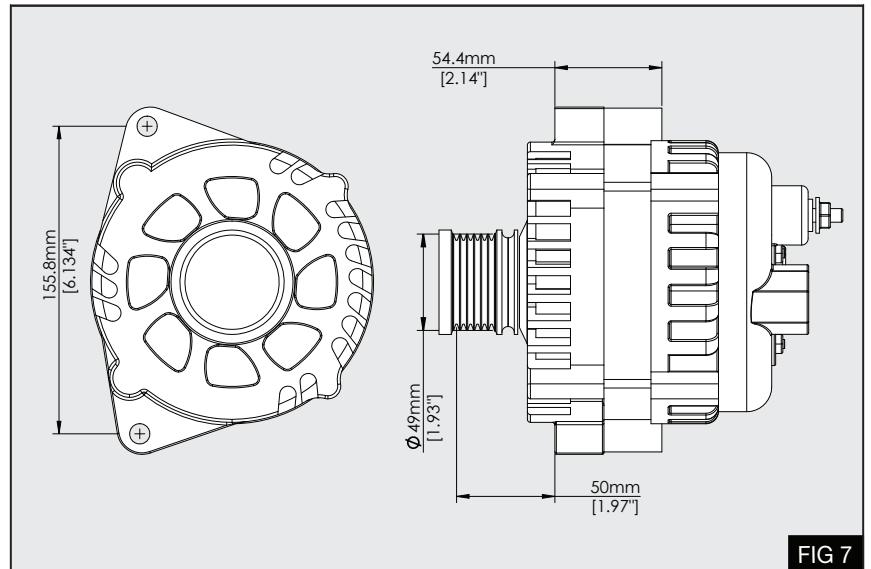

FIG 7
1. Before continuing, check your alternator matches the key specifications in Fig 7